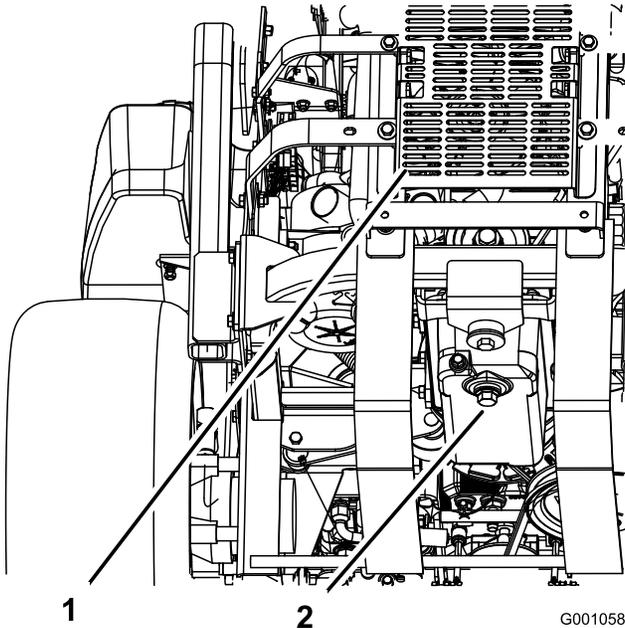

Figure 66
5. Place a pan below the oil drain. Remove the drain plug and let the oil drain completely (Figure 66).